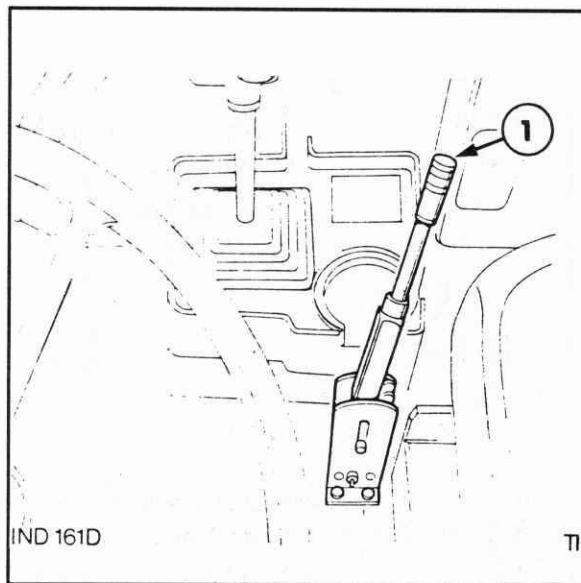
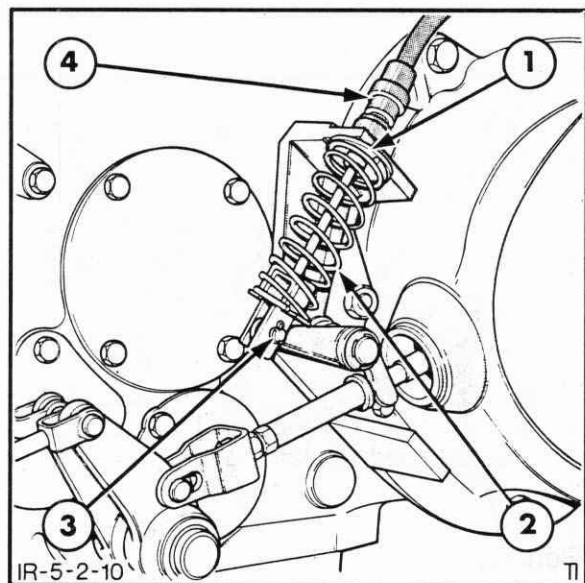

Figure 5-35
Figure 5-36
The twin cable hand brake mechanism consists of a single hand brake lever, Figure 5-35, operating two cables which are connected to the rear axle brake pull rods.
The hand brake lever, Figure 5-35, is of the "over-center" type mechanism with the cable adjustment being maintained by an adjuster at the end of the lever. Pulling the lever into the "raised" position pulls on twin cables mounted on the rear axle housing, Figure 5-36 which in turn actuate the tractor disc brake, as described earlier.
1. Disconnect the hand brake cables from the levers mounted on the rear axle housing, Figure 5-36.